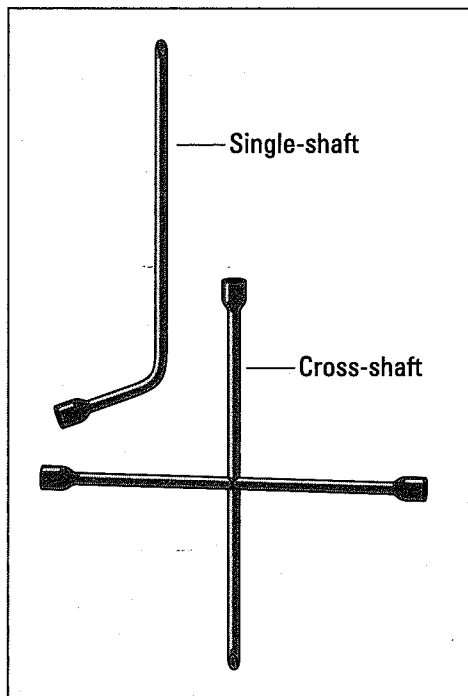

Figure 2-20:
- ✓ **Lug wrench:** A lug wrench is sometimes provided, along with a jack, on new cars (see Figure 2-20). You use it to remove the wheel or lug nuts when you change your tires. If you buy a lug wrench, get the *cross-shaft* kind, which gives you more leverage.